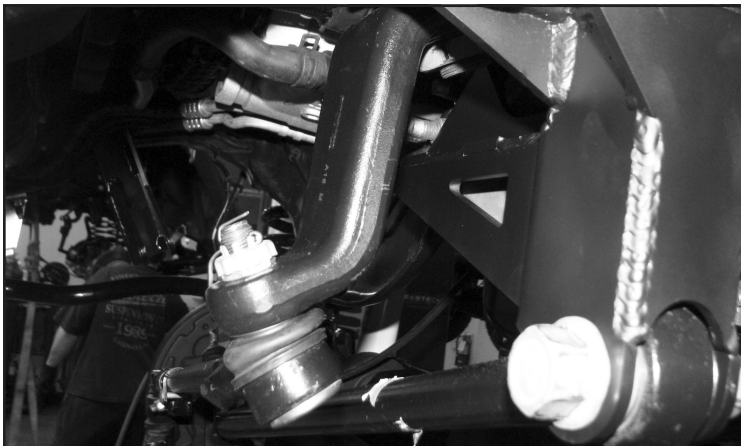

FIGURE 16 - STEP 22
22. Reinstall the track bar to the new frame bracket. Torque to 400 ft-lbs. Install the draglink to the new Fabtech pitman arm using the factory hardware and the new supplied cotter pin. **NOTE: The drag link will need to be rotated 180 degrees and installed from the bottom side of the pitman arm.** **SEE FIGURE 16**